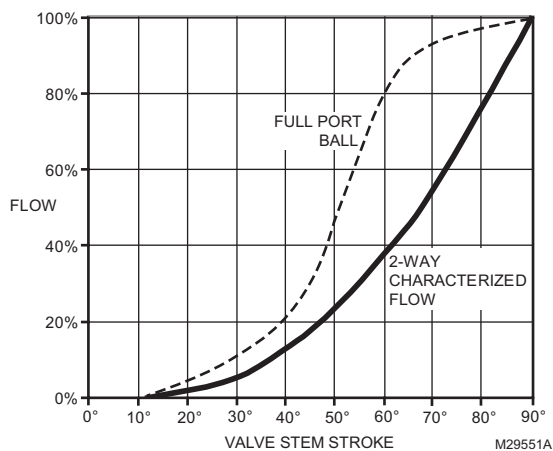

Fig. 12. Typical flow characteristics.
7. Ensure ball is at desired starting position. Stops for quarter turn ball travel are inside base of actuator mounting plate. Additional travel limit stops are provided on hubs of MN and MS series DCAs, which may be used for mechanically setting VRN2 flow rate in conjunction with flow characteristics seen in Fig. 12.
1. With modulating actuator, limit span of control voltage issued by the building automation controller. Valves with flow control inserts have an equal percentage flow characteristic (See Fig. 12). Each 10% reduction in maximum control voltage will result in a 10% reduction in flow.
2. To mechanically limit stroke, set DCA to full open position. Loosen shaft coupling and rotate valve shaft to desired maximum flow position, as confirmed by pressure measurement across coil, using coil manufacturer's data. Retighten shaft coupling. Use Fig. 12 as a guide to setting actuator stroke.